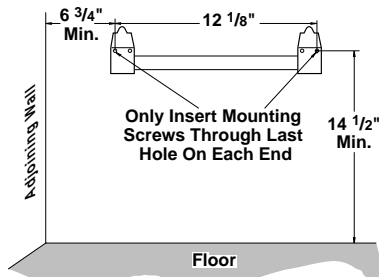

Figure 7 - Mounting Bracket Clearances
⚠ WARNING: Maintain minimum clearances shown in Figure 7. If you can, provide greater clearances from floor and joining wall.
2. Mark screw locations on wall (see Figure 7).